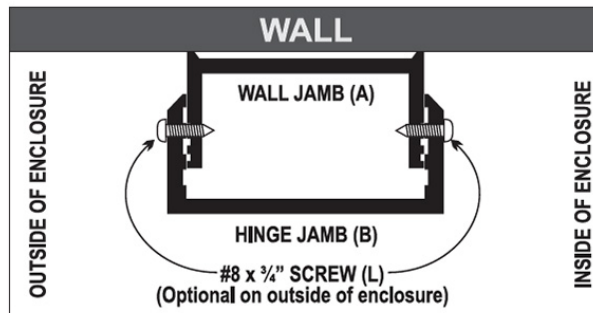

FIGURE 16
Install three #8 x 3/4" Self Tapping Screws (L) into the pilot holes drilled. (See Figure 16)